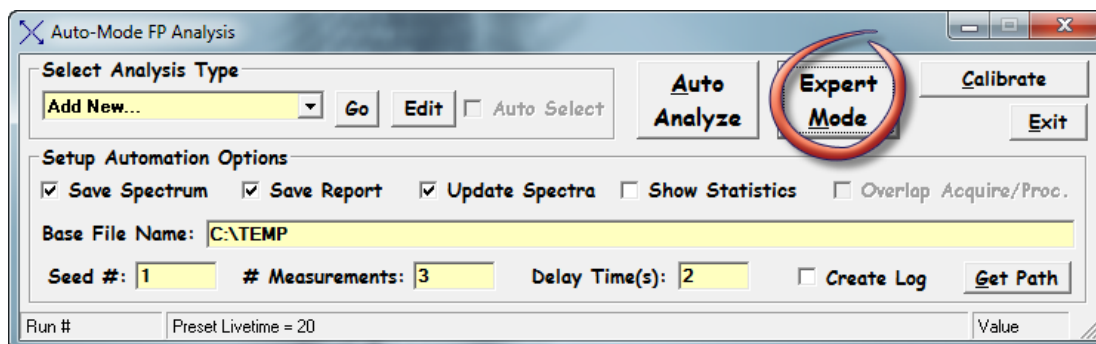

Figure 1. Auto-Mode FP Analysis Panel. Select the “Expert Mode” button.
2. From the Auto-Mode FP Analysis window, click Expert Mode (Fig. 1 below). This will show the contents of the “Master.tfr” file (see section 4.1 of the “XRS-FP Software Guide” for additional information on loading the software).